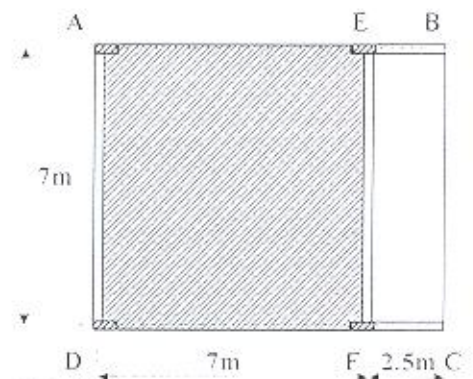

Fig. 3
- Fig. 3 shows a structural plan of roof ABCD. The roof is resting on the beams (AD and EF) and on the frames (EB and FC). The slab AEFD is dropped 100mm. The hollow-block slab system is required. The slabs is subjected to live load = 6kN/m^2 and flooring cover = 1.8kN/m^2 . The cross section of all beams is $250 \times 600\text{mm}$. Materials: $f_{cu} = 40\text{MPa}$, $f_y = 400\text{MPa}$. It is required to carry out the following: